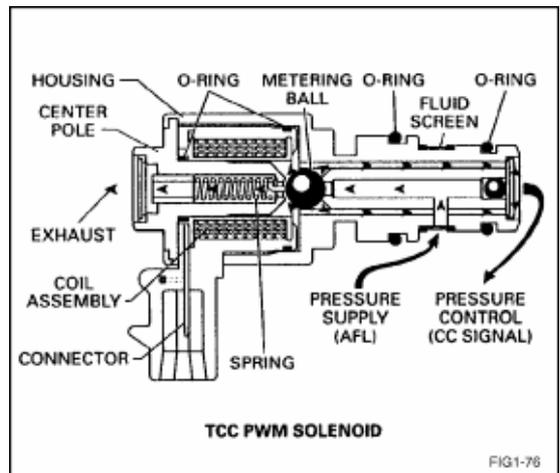

Figure 6C2-1-79 Torque Converter Clutch (TCC) "PWM" Solenoid Cutaway View
Fig. 6C2-1-80 illustrates an example of the TCC "PWM" solenoid operating with a 90% negative duty cycle at a constant operating frequency of 32 Hz (cycles per second). The frequency means that the solenoid is pulsed (energised) with current from the PCM 32 times per second. The 90% negative duty cycle means that during each of these 32 cycles the solenoid is energised (ON) and 0 volts is measured on the low (negative) side